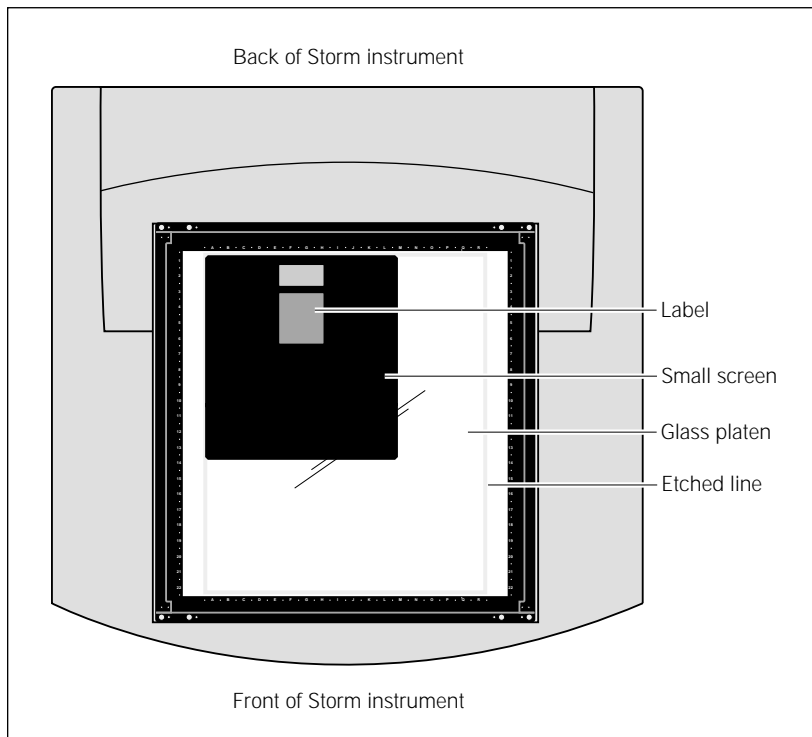

Figure 6-3. Load the screen onto the glass platen of the Storm instrument (small unmounted screen as viewed from above).
2. Align the screen so that the white, phosphor side of the screen is face down and the top of the label is toward the back of the instrument (figure 6-3).
- **Unmounted large or small screen**—Align the top and left edges with the back and left etched lines on the glass platen (figure 6-3).